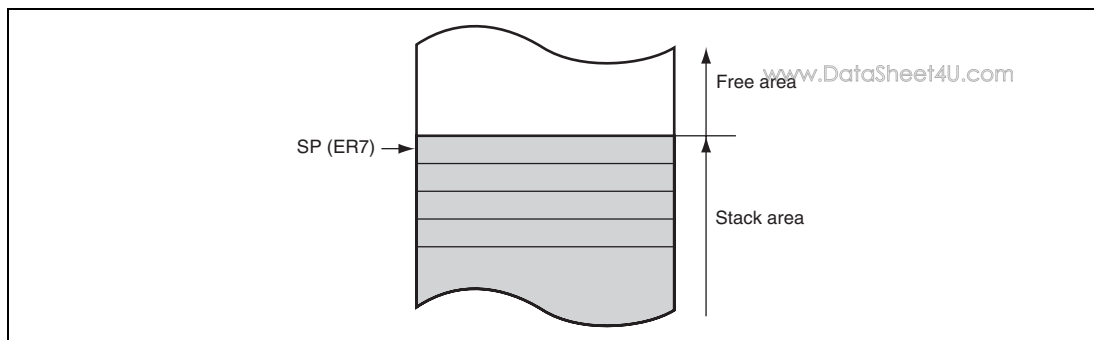

Figure 2.11 Stack
General register ER7 has the function of stack pointer (SP) in addition to its general-register function, and is used implicitly in exception handling and subroutine calls. Figure 2.11 shows the stack.